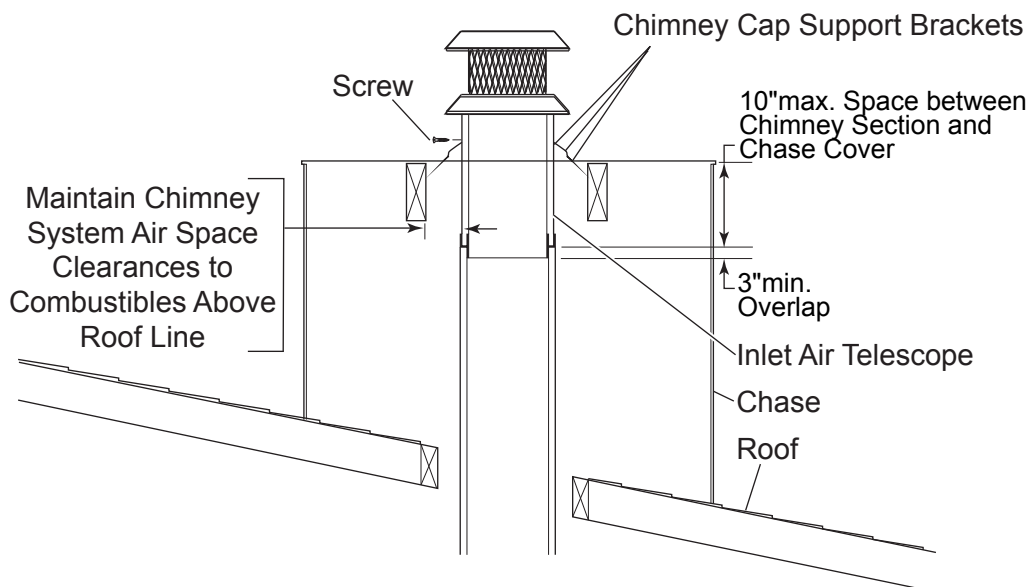

Figure 27 - Installing Chimney Cap Chase
4. Place SCL or SQL8 chimney cap into matching duct telescope and flue telescope of the last chimney section. See Figure 27. Lower the cap until the brackets on the bottom of the chimney cap rests on the raised flange of the flat flashing. Punch or drill $\frac{1}{8}$ " diameter holes in the raised flange of the flat flashing. Fasten cap to the flashing with the No. 8 screws provided.